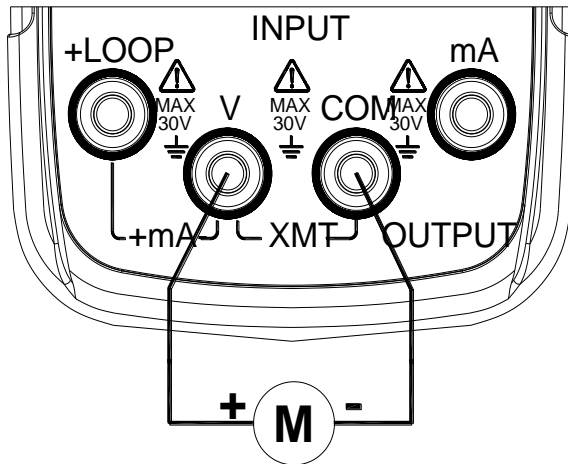

Figure 5.4 DC voltage measurement input
- Insert one end of the test lead to the V jack (INPUT) of the device and connect the other end with the input of the device as shown in Figure 5.4.
- Press the output/input toggle button (3) so that the **INPUT** symbol appears on the display. The device is now in an input state.
- Press the mA%/V unit select button (4) so the device displays V.